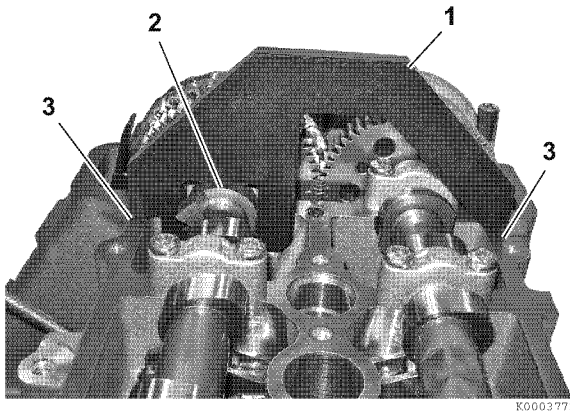

Figure 5-75
5. Install special tool OEM No. 11 6 321 (1, **Figure 5-75**) on the flats of the intake camshaft (2, **Figure 5-75**). The tool must set firmly on the machined gasket surface (3, **Figure 5-75**) on each side of the cylinder head. If it does not, the timing must be adjusted. See *Adjust camshaft timing* on page 5-42.